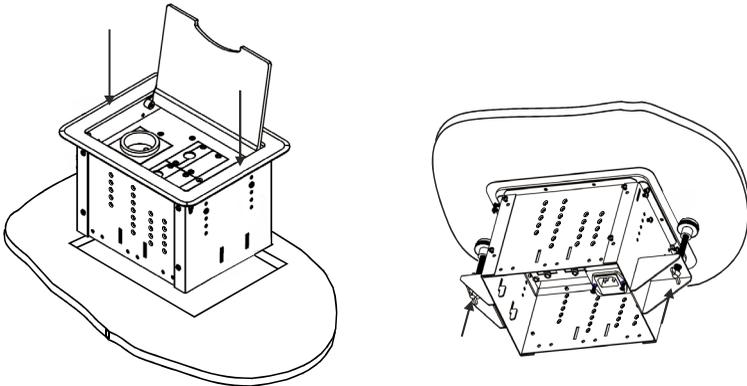

Figure 5: Inserting TBUS-1A into the Prepared Opening
2. Carefully insert the unit into the prepared opening (see Figure 5).
5. Screw both mounting butterfly screws upward until they reach the table surface (from underneath). Tighten firmly (see Figure 5).